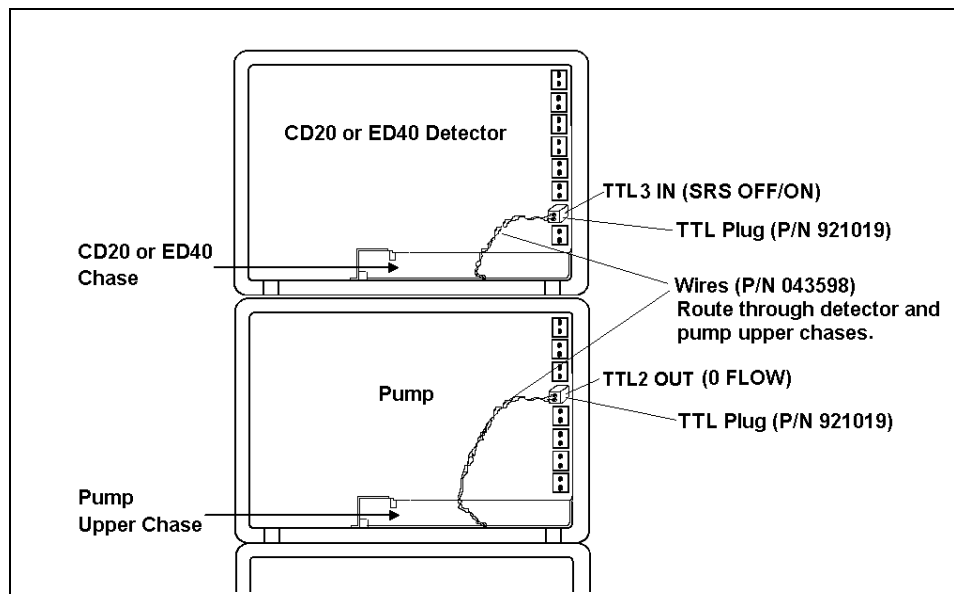

Figure B-7. TTL Connections for SRS Power Control
5. Plug one end of the cable into **TTL2 OUT** on the IP20. (The TTL connectors are located behind the upper door). Route the cable through the upper chases of the IP20 and the CD20 or ED40. Plug the other end into **TTL3 IN** on the detector (see Figure B-7).